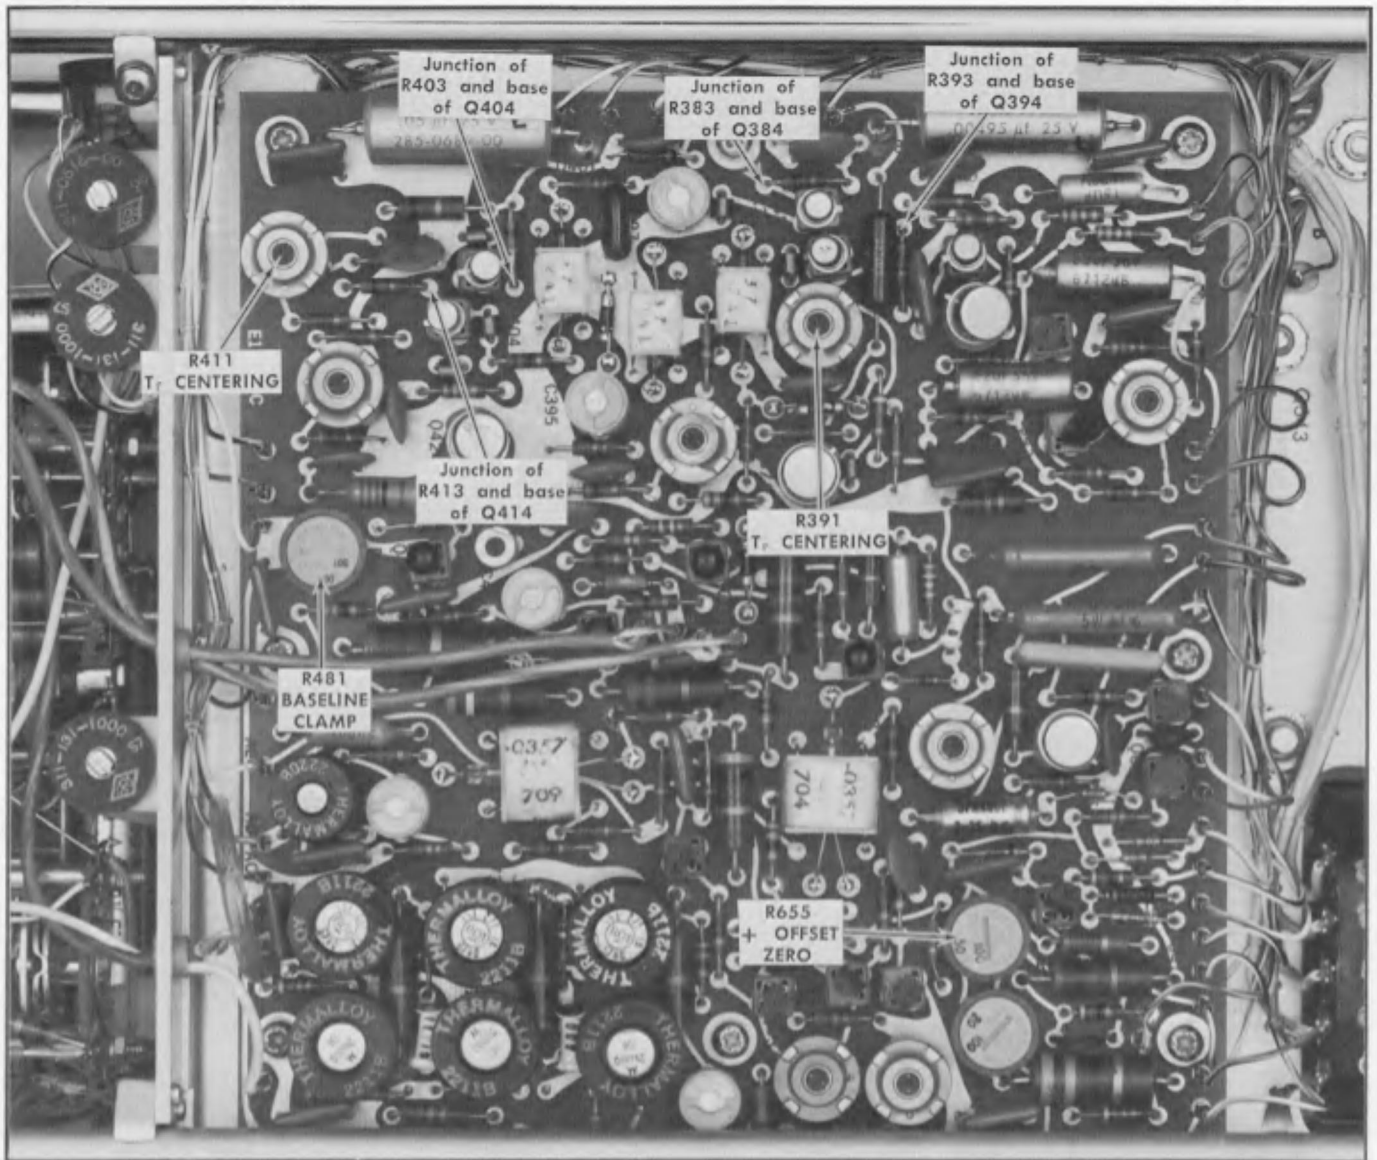
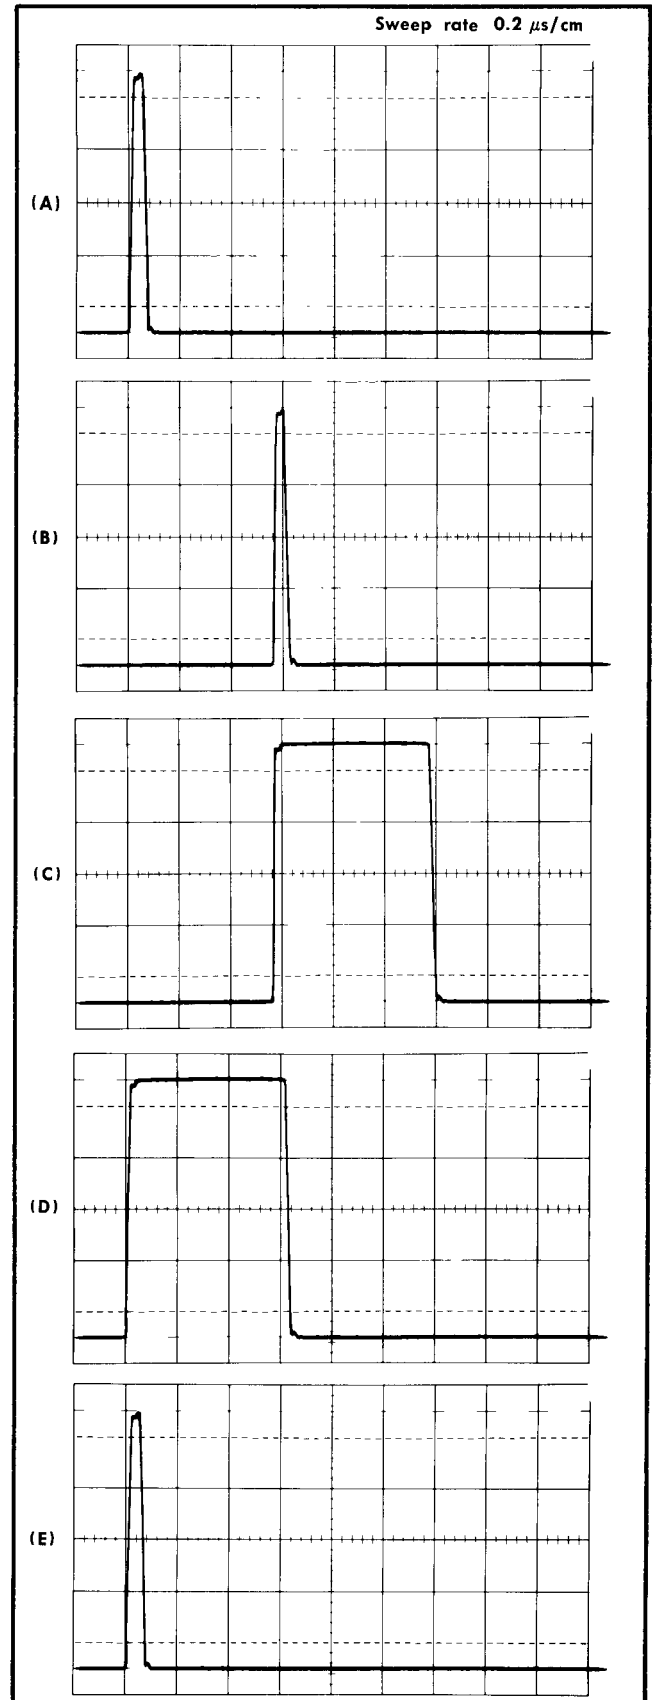

Fig. 5-5. Bottom circuit board: Location of test points and adjustments in steps 4 through 8.
Fig. 5-6. Typical test oscilloscope displays obtained during check of width and delay trigger sensitivity adjustments (step 6e).
f. Connect the negative lead of the voltmeter to the junction of R383 and the base of Q384 (see Fig. 5-5).
g. Connect the positive lead of the voltmeter to the junction of R393 and the base of Q394 (see Fig. 5-5).
i. ADJUST—R391, T, CENTERING adjustment, (see Fig. 5-5) if the voltage is not correct.
5. Adjust Falltime Centering ①
- a. Connect the negative lead of the voltmeter to the junction of R403 and the base of Q404 (see Fig. 5-5).
- b. Connect the positive lead of the voltmeter to the junction of R413 and the base of Q414 (see Fig. 5-5).
- d. ADJUST—R411, T_r CENTERING adjustment, (see Fig. 5-5) if the voltage is not correct.
6. Adjust Width and Delay Trigger ①
- e. Observe the test oscilloscope display (see Fig. 5-6) while performing the following four operations:
1. Turn the DELAY OR BURST DURATION VARIABLE control slowly clockwise to the fully clockwise position (B).
2. Turn the WIDTH VARIABLE control slowly clockwise to the fully clockwise position (C).
3. Turn the DELAY OR BURST DURATION VARIABLE control slowly counterclockwise back to the CAL position (D).
4. Turn the WIDTH VARIABLE control slowly counterclockwise back to the CAL position (E).
g. ADJUST—R655, +OFFSET ZERO adjustment, (see Fig. 5-5) if the offset zero level is not correct.
8. Adjust Baseline Clamp ①
f. ADJUST—R481, BASELINE CLAMP adjustment, (see Fig. 5-5) if the baseline level is not correct.